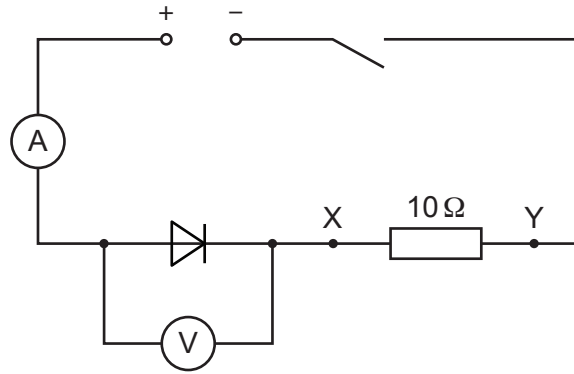

Fig. 2.1
- (vi) Sufficient connecting leads to set up the circuit shown in Fig. 2.1. See note 6.
- 5. The resistors labelled ' 3Ω ' and ' 7Ω ' must be placed by the side of the circuit shown in Fig. 2.1.
- 6. The supervisor must set up the circuit as shown in Fig. 2.1. The terminals X and Y must be clearly labelled. The supervisor must check the circuit by closing the switch. Readings should be obtained on the ammeter and voltmeter. If the ammeter reading is zero, the supervisor should check that the diode has not been connected the wrong way around. After this check has been carried out, the switch must be opened.
Restore the circuit to its original state, as shown in Fig. 2.1, and check that the voltmeter and ammeter readings have not changed significantly. If the current is zero, then the diode must be replaced. If cells are used, they may need to be replaced.